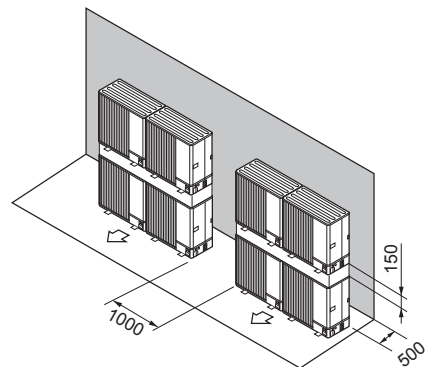

Fig. 1-19
- ⑦ Stacked unit arrangement (Fig. 1-19)